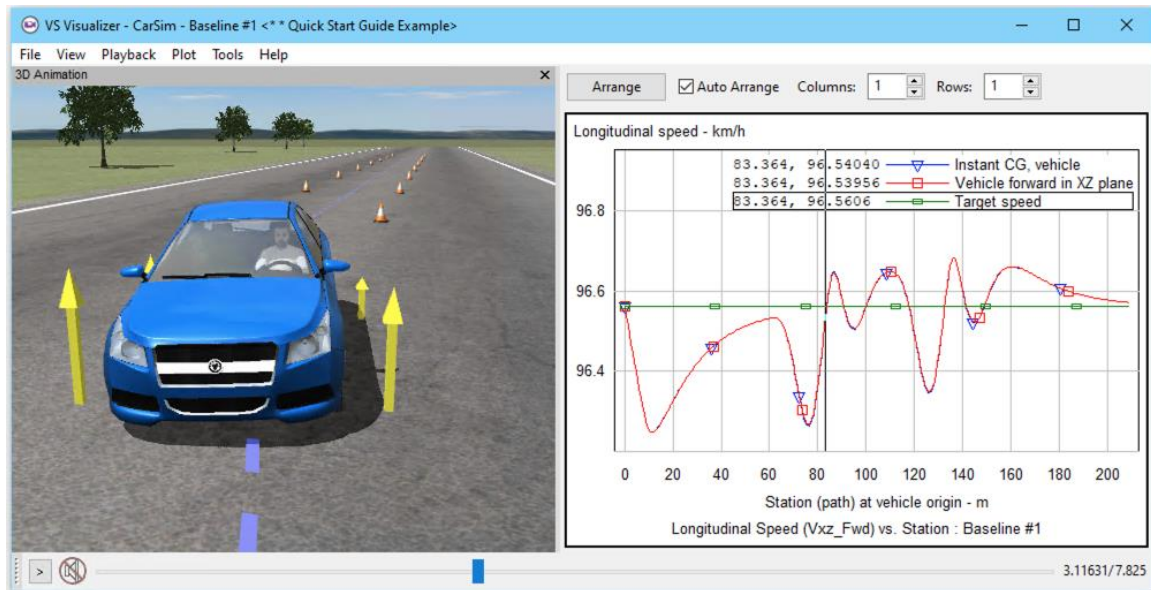
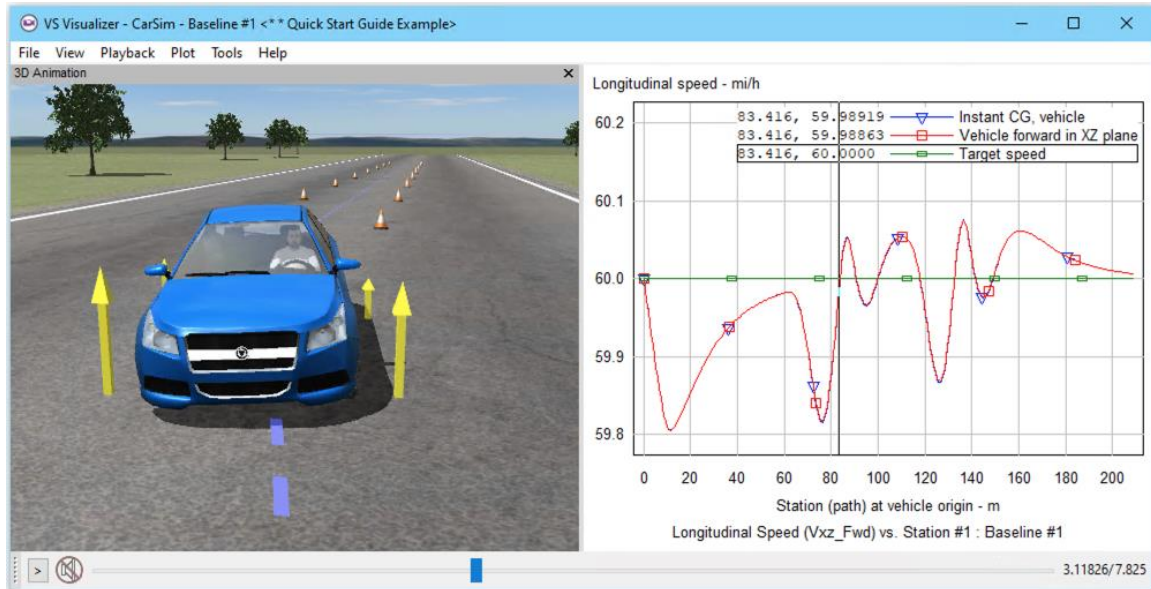

Figure 6. Video and plot for target speed of 60 mi/h.
Figure 8. Video and plot showing speeds with mi/h.
Figure 6 show a video image and plot for the example run. Although the speed target was set with units of mi/h, the plot variables are still scaled to show km/h (with the target speed being 96.5606 km/h).
The first yellow field (1) is normally blank. However, in this example, we have added three VS Commands to set the units of the three speed variables to mi/h. Figure 8 shows that the plots now show the speeds in mi/h, with the target speed exactly 60.0 mi/h.
The internal calculations made by the VS Math Model for the two runs (with results in Figure 6 and Figure 8) are identical. The only difference is that the internal speed variables, with SI units of m/s, were scaled differently when written to the output files used by VS Visualizer to make the plots.